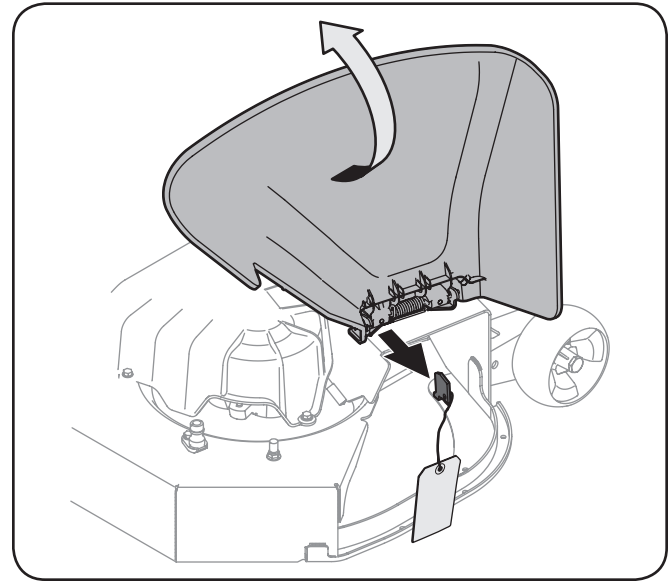

Figure 3-4
2. Holding the chute deflector fully upward, remove the stop bracket by grasping it and rotating it clockwise. Lower the chute deflector Figure 3-4.